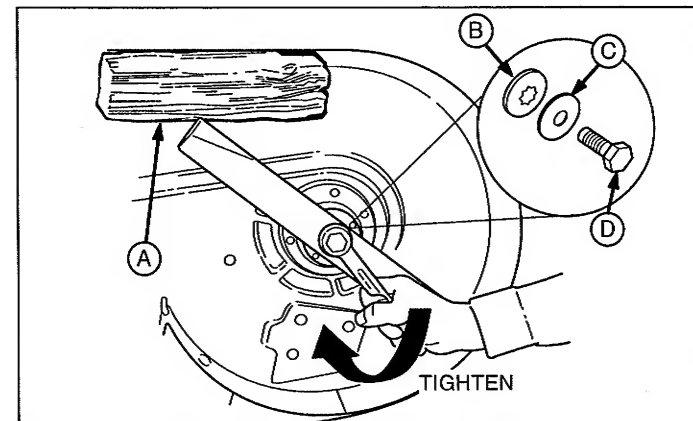

Figure 42. Installing The Blade - 54" Models
6. Reinstall each blade with the tabs pointing up toward deck as shown in Figure 42. Secure with a capscrew, spring washer and spline washer (be certain the spline washer is aligned with the shaft). Use a wooden block to prevent blade rotation and torque capscrews to 45-55 ft.lbs. (61-75 N.m.).